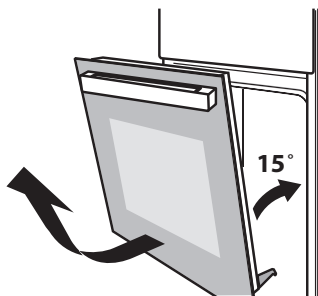

Fig. 2
2. Close the door to an angle of approximately 15° , lift and slowly pull the door out of the oven (Fig. 2).